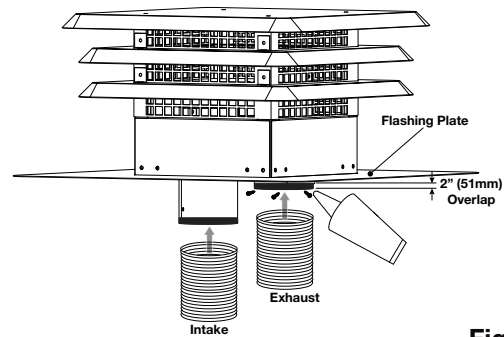

Fig. 1
- 1. OUTSIDE:** Slip the one end of a liner a minimum of 2" (51mm) over the sleeve of the air terminal. Secure using 3 screws. Then seal the joint and screw heads with high temperature sealant. Repeat with the other liner (**Fig. 1**).